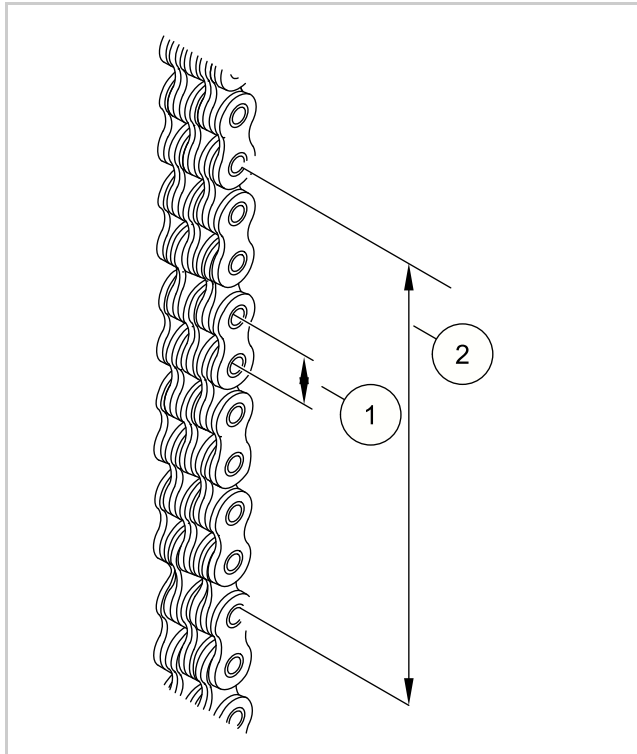

Fig. 3 (33492)
3. See Figure 3. Measure the lift chain pitch (1) from the center of the center of two chain pins of an outer plate.
2. See Figure 3. Measure the length (2) from the center of the first chain pin to the center of the last chain pin.
Insert the tools between the ram and the cylinder walls, 180 degrees apart, and screw into the face of the packing (Refer to Figure 3). After the threads are sufficiently secured into the packing, evenly pull on the screwdriver handles until the packing is removed.